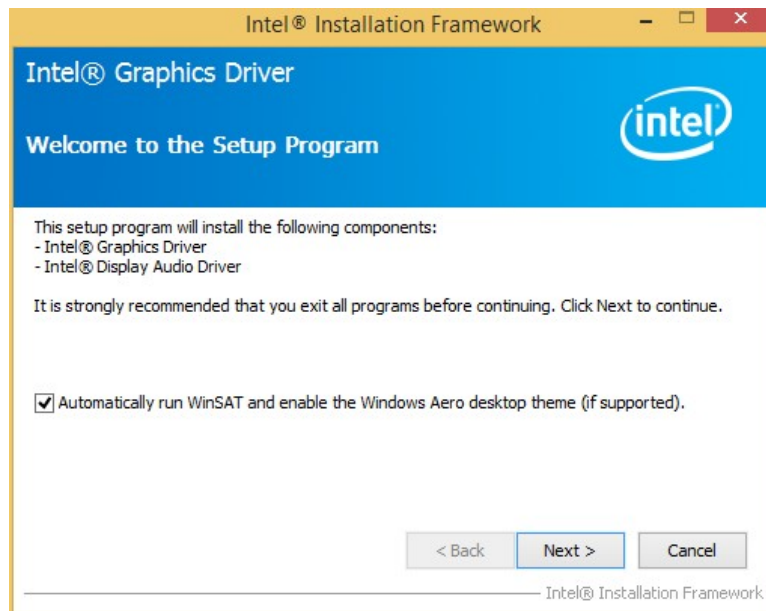

Figure 6-8: Graphics Driver Welcome Screen
**Step 4:** The **Welcome Screen** in **Figure 6-8** appears.